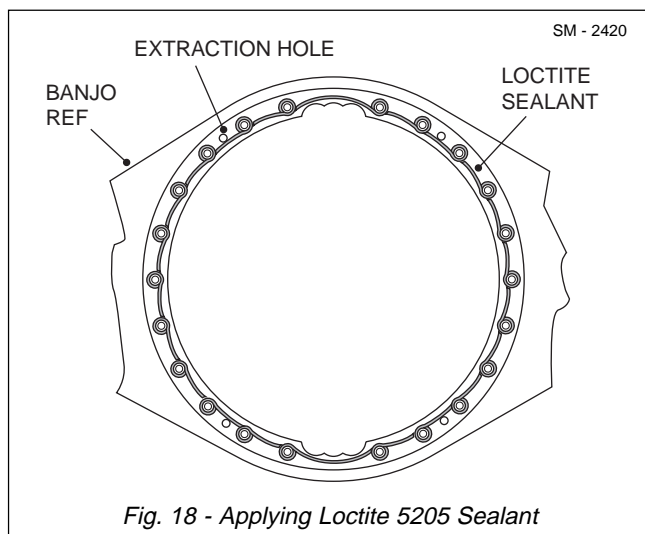

Fig. 18 - Applying Loctite 5205 Sealant
3. Clean mating surfaces of the banjo and differential assembly with a Loctite 7063 cleaning agent to remove dirt, oil, grease, or other foreign matter. Leave cleaned surfaces to dry. Apply Loctite 5205 sealant to the banjo mounting face in a 3 to 5 mm (0.12 to 0.19 in) diameter bead, ensuring that all stud holes are encircled and each circle is connected to the one on either side (the loop between the studs will be on the inside of any extraction holes). Refer to Fig. 18.
4. Set screw (4) should already have been removed from the top of the differential housing and replaced with a lifting eye during removal. If not, remove set screw (4) from differential housing and replace it with a lifting eye.